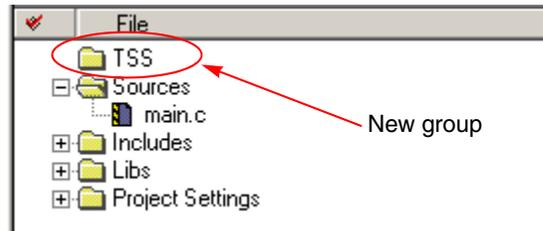

Figure 9. New group folder window
1. First, create a new group folder to hold the TSS files. Click **Project > Create Group** and name it **TSS**. This places a new group folder at the top of the list as shown in Figure 9.